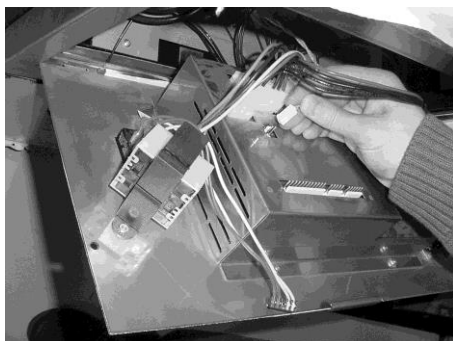

Figure 2-15
5. Remove the probe from the frypot, and disconnect wire connector from the control panel. Figure 2-15.